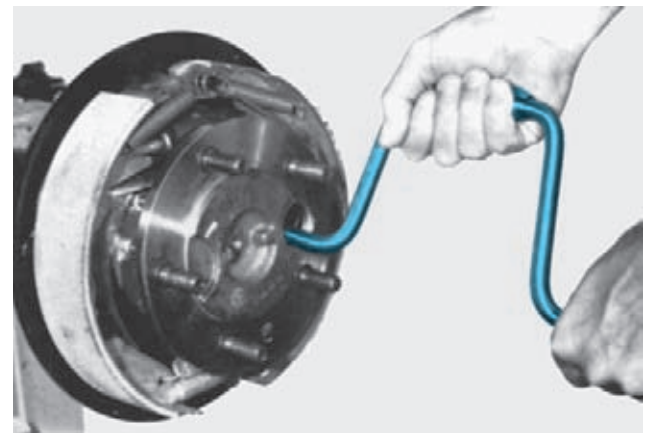

FIGURE 12-29 After the axle has been replaced, tighten the retainer nuts to the correct torque. (Courtesy of Dana Corporation)
4. Tighten the retainer nuts to the correct torque (Figure 12-29).